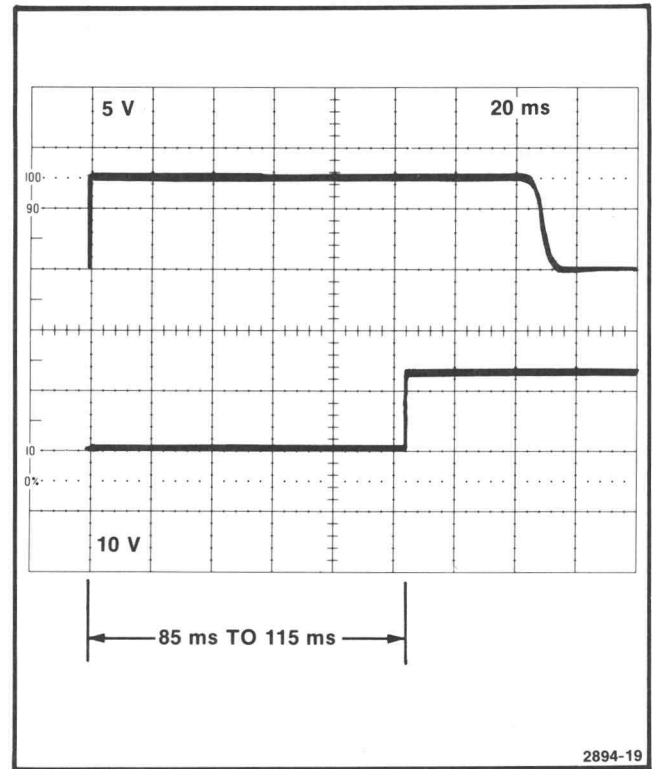

Fig. 4-16. Inspiration timer duration waveform.
e. **CHECK**—Transition amplitude of 413A crt display is 0.75 to 1.25 cm (with RESP SIZE set to index). Note exact amplitude. Measure between points on waveform as shown in Figure 4-16.